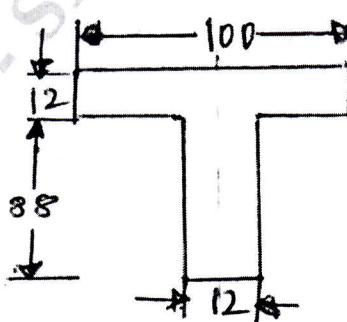

Fig.Q6(b). All dimension are in mm
- b. Fig.Q6(b) shows the cross-section of a beam which is subjected to a shear force of 20 kN. Draw shear stress distribution across depth marking values at salient points.